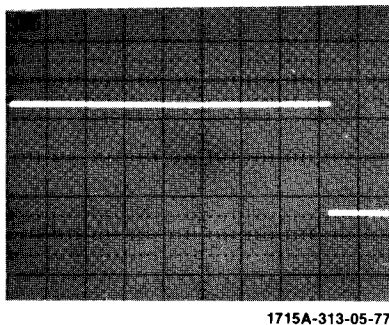

Figure 4b. Delayed Sweep Display
5. Press DLY'D **4** and note the intensified portion of the trace is now displayed across the entire CRT (figure 4b).